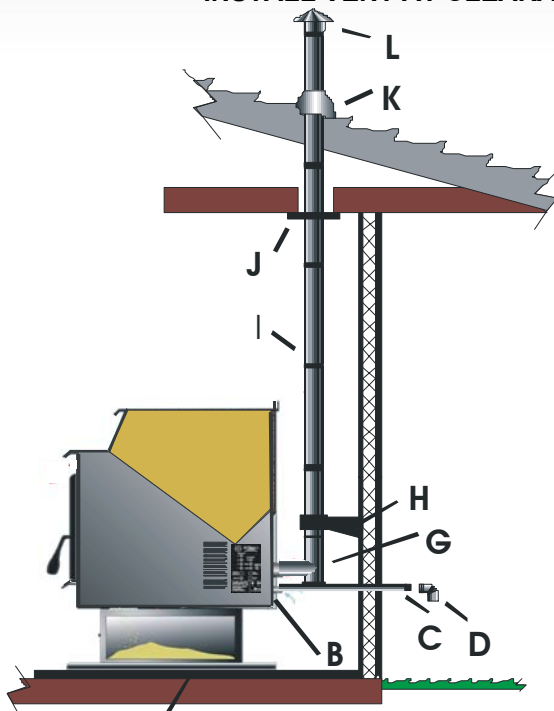

Figure 23
-  Permanently bolt your stove to the floor, (A). Figure 23, 24
-  The stove must have a permanent outside air source with a ¼ inch screen over the inlet. Figure 23, (B,C, D)
-  "PL" Vent must be 3" or 4" PL Vent and must extend a minimum of 36" above the roofline of the mobile home and must be installed using a UL/ULC listed ceiling fire stop (J), figure 23, and rain cap (L), figure 23.